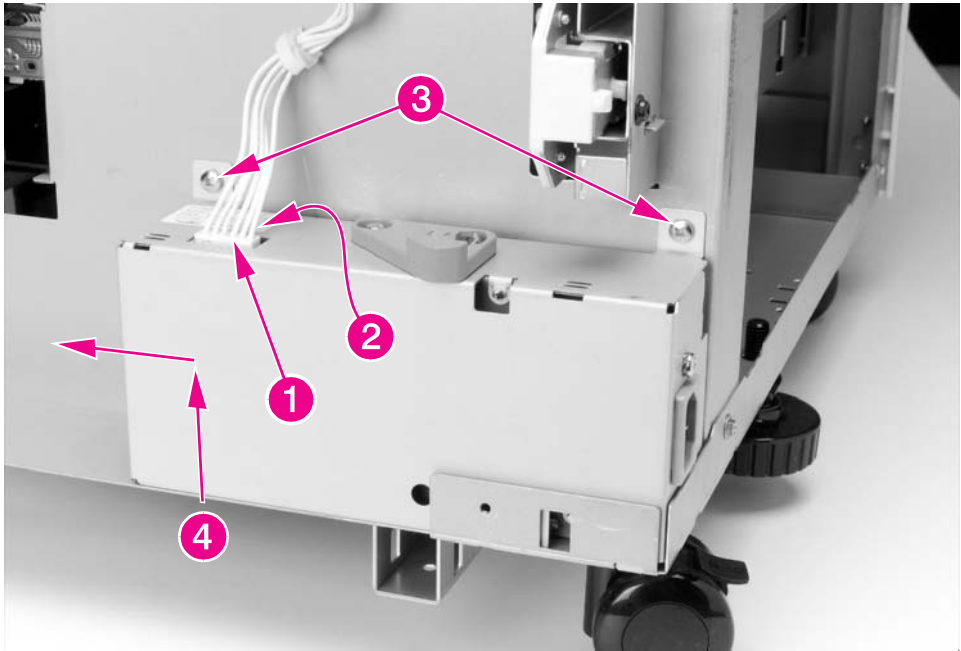

Figure 6-72 2000-sheet Input Tray Power Supply
- 2 Locate the cable that runs from the Controller PCA on the 2000-sheet Input Tray to the unit's Power Supply (Figure 6-72, callout 1). Disconnect the cable from the Power Supply by pushing on the retaining tab that is located behind the cable connector (callout 2).